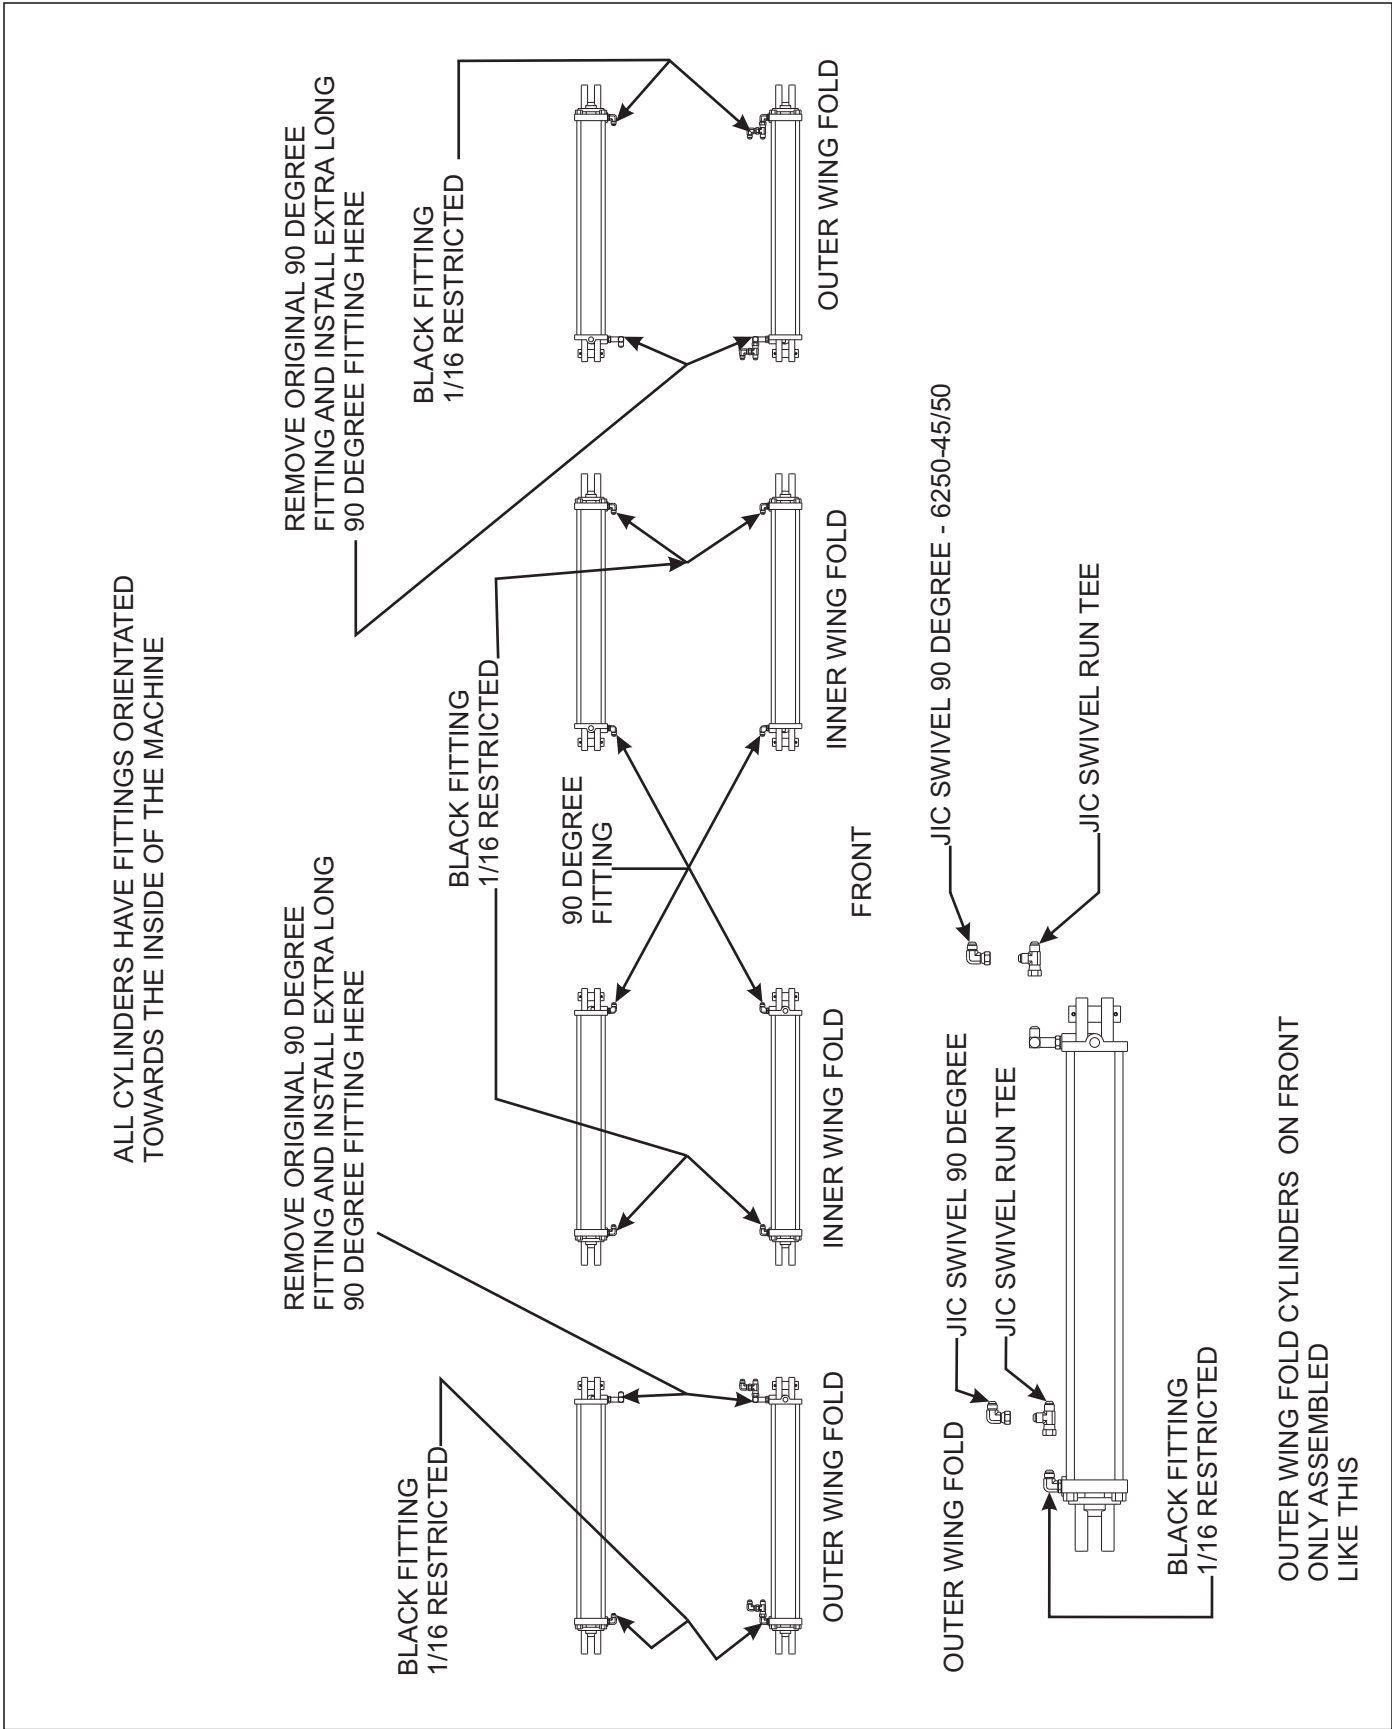

Figure 3-21: Hydraulic Fitting Installation
5. The fold cylinders come equipped from Landoll Company, LLC. with a black, 1/16 restricted 90 degree fitting in the rod end and a plain 90 degree fitting in the base end. Remove the plain 90 degree fitting from the base end of the outer wing fold cylinders and install the (4) extra-long 90 degree fittings. This will allow the hoses to be installed when the cylinder is up next to the wing stabilizers. Install the JIC swivel run tee and JIC swivel 90 degree elbow as shown on the front outer wing fold cylinders. (**See Figure 3-21**.)